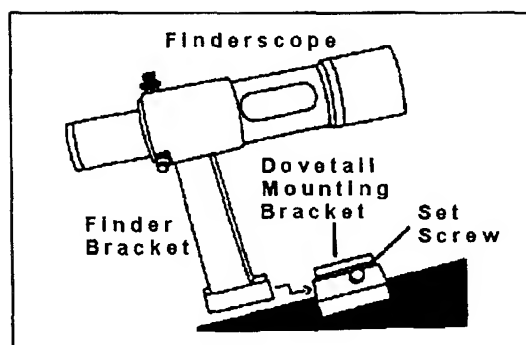

Figure 3
- 2. Slide the finder bracket (attached to the finderscope) into the mounting bracket on the telescope. Tighten the set screw on the mounting bracket to hold the finderscope in place (see figure 3).